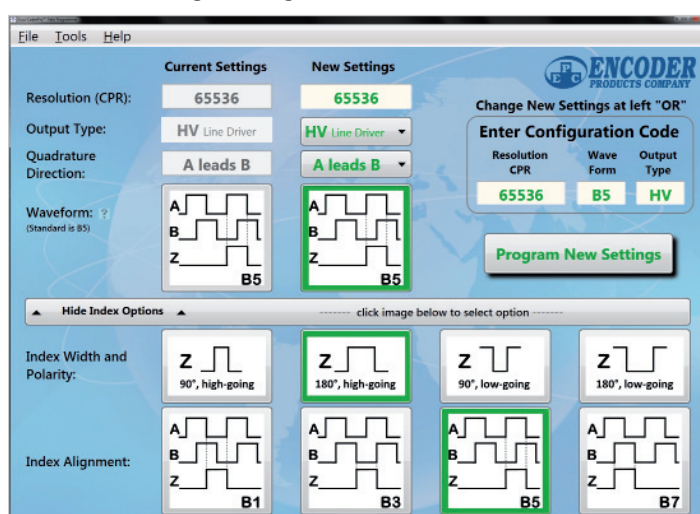

Figure 5
8. Change **New Settings** fields to desired configuration (see *Figure 5*).
9. Click **Program New Settings** to program the encoder (see *Figure 5*).